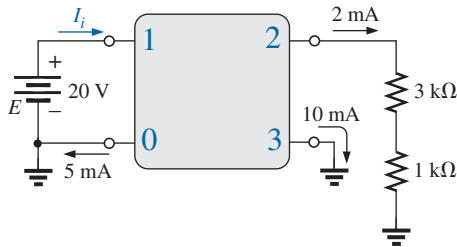

FIG. 5.126
- *43. For the integrated circuit in Fig. 5.126, determine V_0 , V_{03} , V_2 , V_{23} , V_{12} , and I_i .